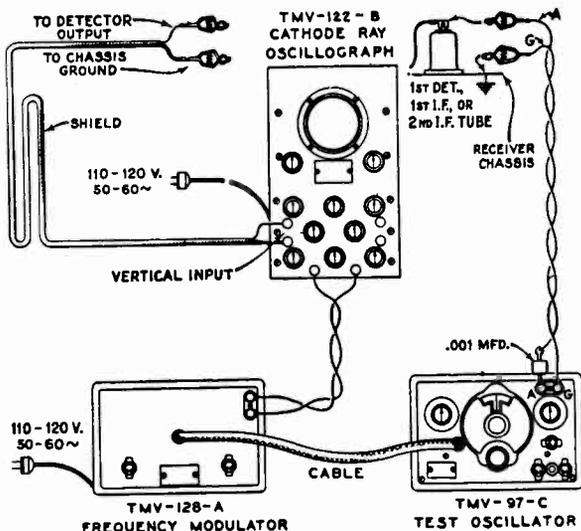

Figure 5—Alignment Apparatus Connections
Figure 5. A .001 mfd. capacitor installed in series with the Oscillator "Ant." lead will prevent the voltages of the stage under alignment from becoming upset. The vertical "A" amplifier should be "On" for the ensuing adjustments and the gain control kept at its maximum position. For each adjustment, the Oscillator output need be regulated so that the image obtained
- (b) Attach the output of the test Oscillator between the control grid cap of the RCA-6K7 i-f tube and chassis ground as shown typically by Figure 5. Tune the Oscillator to 460 kc. and set its modulation switch to "On". Regulate its output until the signal produces a wave pattern on the Oscillograph screen, adjusting the Oscillograph controls to give the desired number of cycles. Cause the image to stand still on the screen by manipulation of the frequency and synchronizing controls. Then carefully tune the two trimmers C-29 and C-30 of the second i-f transformer to produce maximum amplitude (vertical deflection) of the oscillographic image. Under this condition the transformer will be sharply resonated to 460 kc.
in operation and interconnected with the Full Range Oscillator by means of the special shielded patch cord. Figure 5 shows the proper arrangement. Set the Frequency Modulator sweep range switch to its "Lo" position and turn the Oscillator modulation switch to "Off". Change the timing control of the Oscillograph to "Ext." and place the range switch to its No. 2 position. Then carefully shift the tuning of the Oscillator so as to increase its frequency, until two distinct and similar waves appear on the Oscillograph screen and become exactly coincident at their highest points. These curves will be found to occur at an Oscillator setting of approximately 540 kc. They will be identical in shape but appearing in reversed positions. Adjust the frequency control of the Oscillograph in order to cause the waves to conform with the above requirements and to make them remain motionless on the screen. This will require a setting of approximately $\frac{1}{2}$ clockwise rotation of the frequency control. The trimmers C-29 and C-30 should then be re-adjusted so that the two curves move together and become exactly coincident throughout their lengths, maintaining the maximum amplitude at which this condition can be brought about.